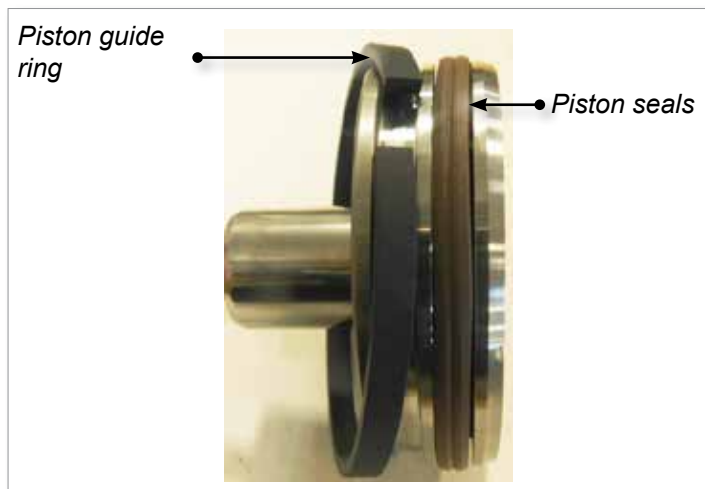

Figure 4-7 Install piston seals and guide ring
1. Install the two piston seals and the piston guide ring. See Figure 4-7.